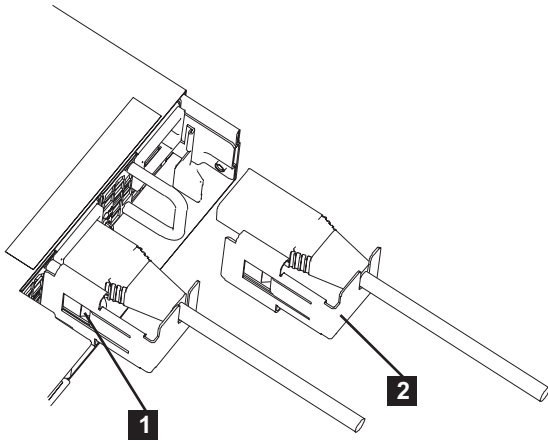

Figure 33. SAN Volume Controller 2145-CF8 cable-retention brackets
The cable-retention brackets install without tools, as shown in Figure 33.
2. Align the cable-retention bracket on the power cord so that the bracket is to the left side of the cord, as shown by **2** in Figure 33.
5. Push the cable and the bracket into place, as shown in Figure 33.